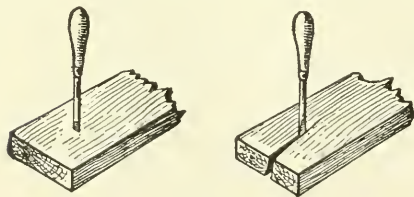

Fig. 151
38. The Brad-awl should not be quite so large as the nail to be driven. Bore with the cutting-edge across the grain (Fig. 151) lest the wedge shape of the tool cause the wood to split. After the edge is well into the wood, the awl can be twisted a little back and forth as it is pushed further. There is always risk of splitting thin wood near an edge.